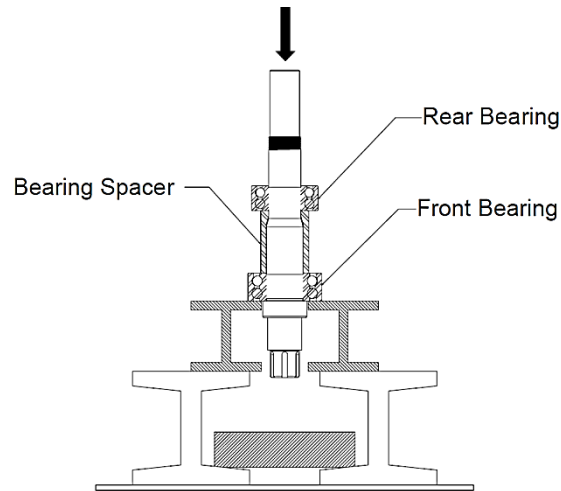

Figure 48: Removing Bearings and Sleeve from Shaft
6) Using a press and equally sized blocks, remove the front and rear bearings along with the bearing spacer. To prevent damage to the shafts, make sure that both ends are protected (Figure 48). The bearings are press fit on the shaft and will require a press to be removed.